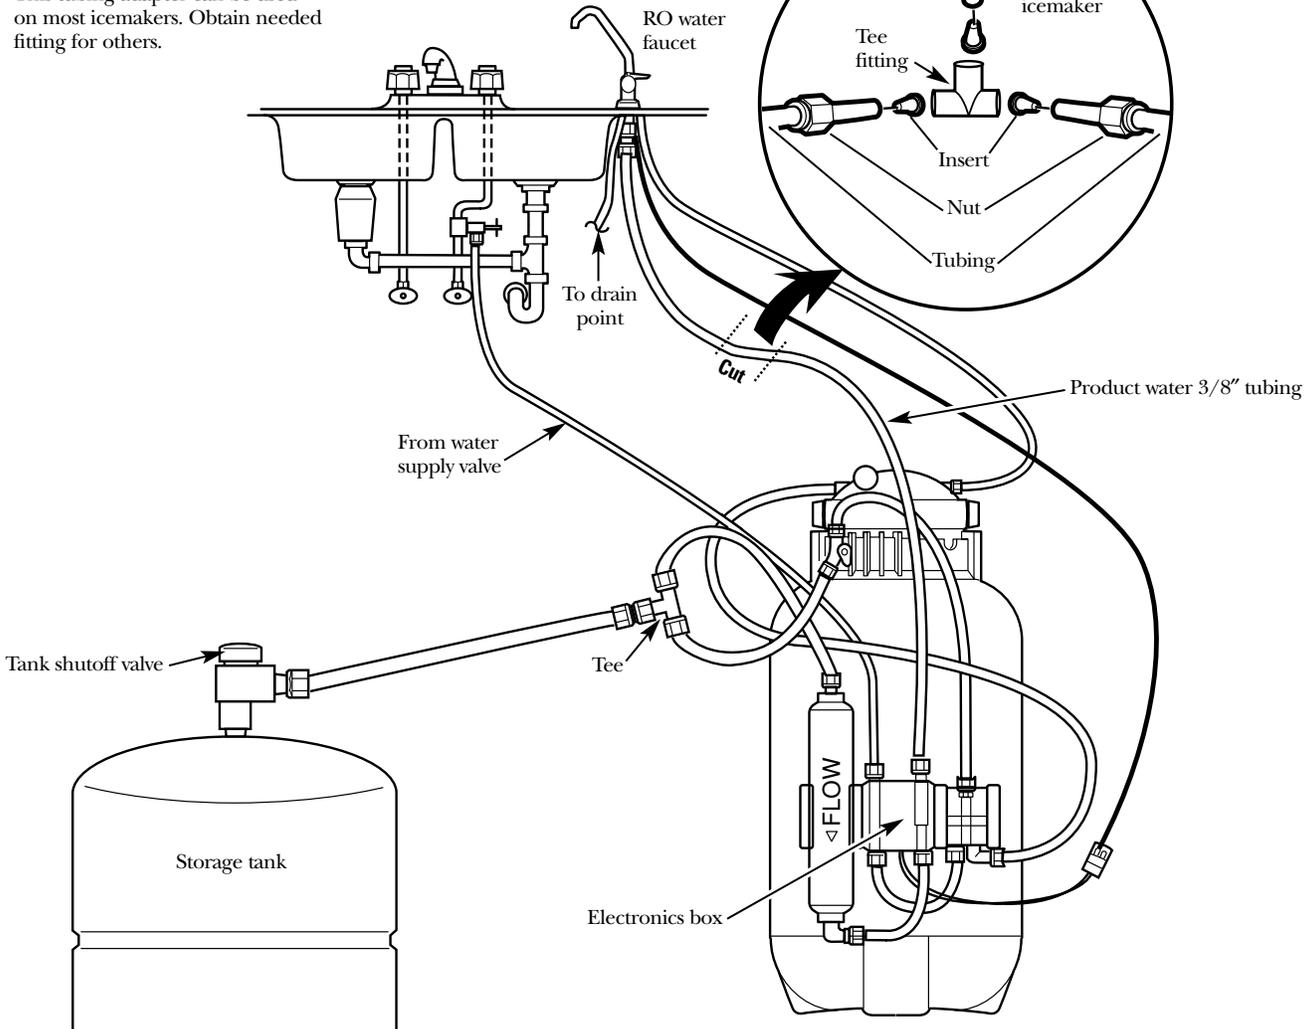

Fig. 13
1. Locate 3/8" tubing that supplies the product water to the RO faucet. At a convenient point between the faucet and the electronics box, cut the tubing and install the 3/8" tee fitting. Connect one end of the 33 ft. length of 3/8" blue tubing to the tee, as shown in Fig. 13.